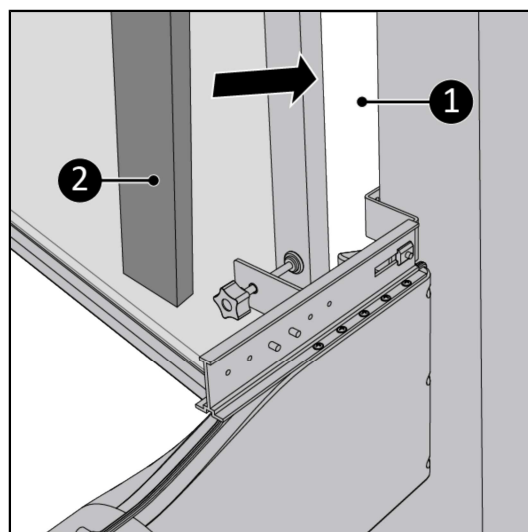

Figure 66.
16. Screw the clamping screw carefully to the window frame (Figure 66, pos. 1).
17. Fill up the open spaces (Figure 66, pos. 1) with the delivered isolation foam (Figure 66, pos. 2), cut the foam if necessary*.